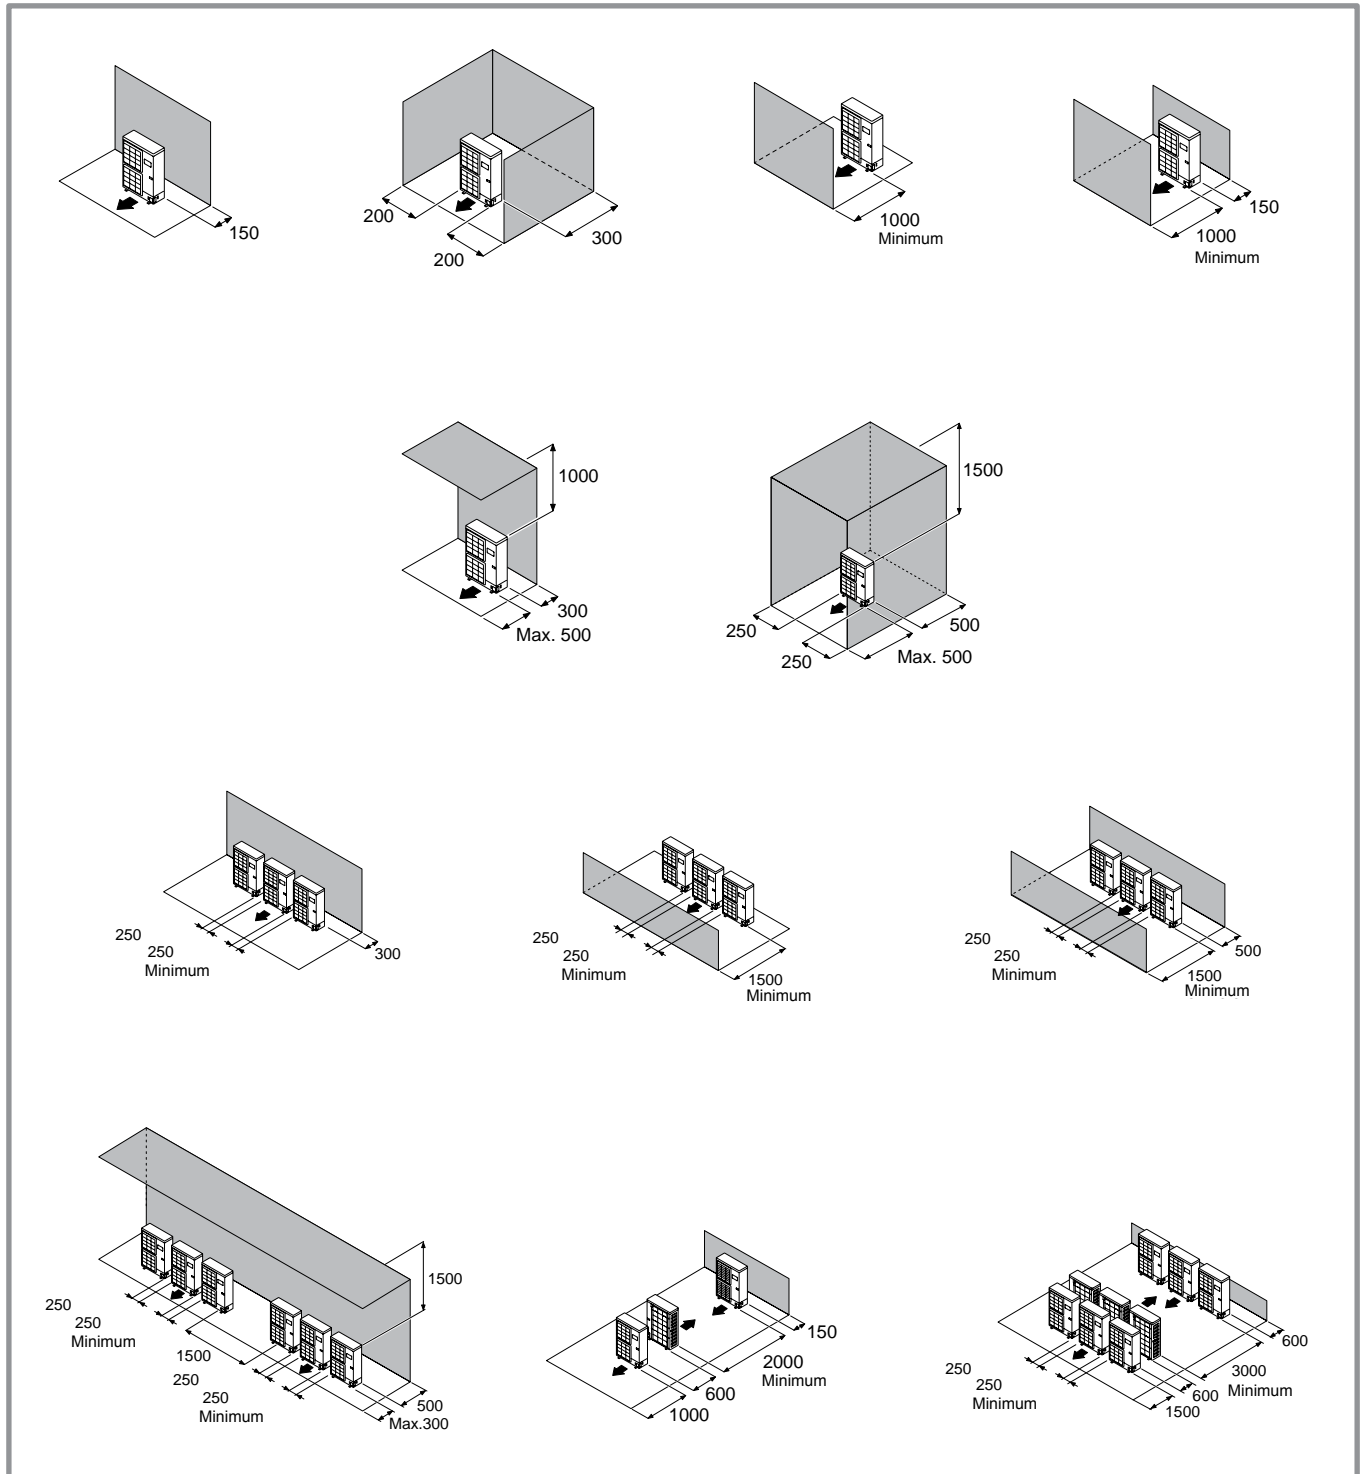

figure 11 - Minimum installation clearances around outside unit (all models)
☞ **The outdoor unit must only be installed outdoor (outdoors). If a shelter is required, it must have broad openings on the 4 walls and observe the installation clearances (figure 11).**
- Nothing should obstruct the air circulation through the evaporator and from the fan (figure 11).